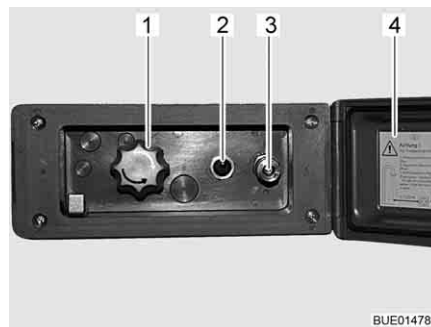

Fig. 77 External shower connection point
- Unlock and open the cover (Fig. 77,4).
- Attach hose of the external shower to the quick closure (Fig. 77,3).
- Switch on the water pump using the switch (Fig. 77,2).
- Adjust the water temperature with the rotary knob (Fig. 77,1) as desired.
- Switch off the water pump using the switch (Fig. 77,2).
- Close the cover (Fig. 77,4) and lock with key.
- Turn knob (Fig. 77,1) to the centre position.